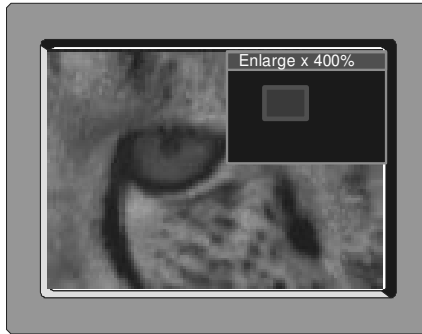

Figure 26: OSD Enlarge Status
3 A small rectangle inside a transparent pop-up OSD Enlarge status box appears at the top right corner of the screen showing the position of the zoom within a picture (see Figure 26)
The zoom ratio and the zoom position are illustrated by a small rectangle inside a transparent pop-up OSD Enlarge status box that appears at the top right corner of the screen, as the example in Figure 26 illustrates:
- Using the Zoom + and/or the Zoom - control keys¹ on the infra-red remote control transmitter (see Figure 16). The pop-up OSD Enlarge status box continuously displays the zoom ratio and position, as Figure 26 illustrates